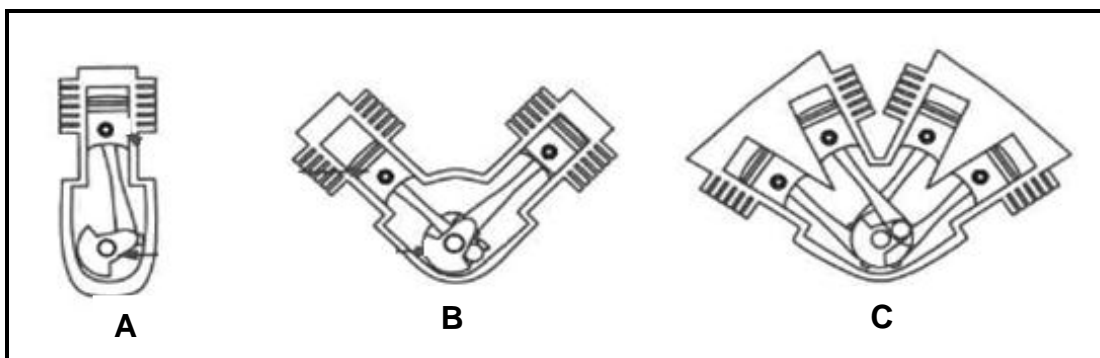

FIGURE 6.3
6.3 Identify the different types of engine layouts, as shown in FIGURE 6.3.